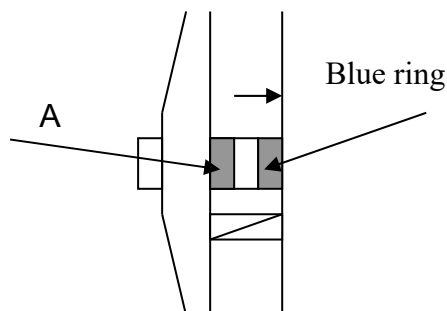

Figure 17
- F. Close the door and turn the door knob clockwise and see “A parts” to touch the “Blue ring” as Figure 17.